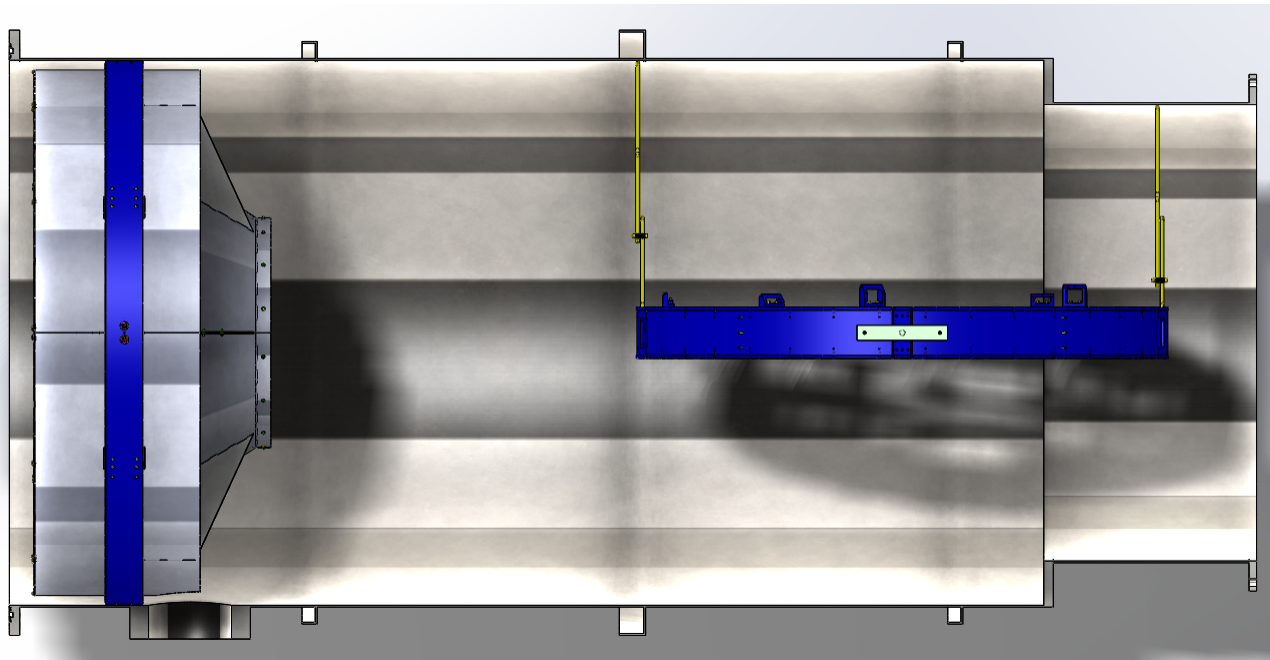

Figure 8 Periscope Assembly in the Staging Location with Rotation Stabilizing Bars installed.
12. rotate Periscope Assembly 90 deg. such that the faces of the Periscope Assembly are parallel to beam tube axis and the exposed face with the mirror bases (D1200726) is oriented as shown in Figure 8
14. install Rotation Stabilizing Bars between Periscope Assembly and A7 Adapter wall to prevent accidental rotation (see Figure 8)